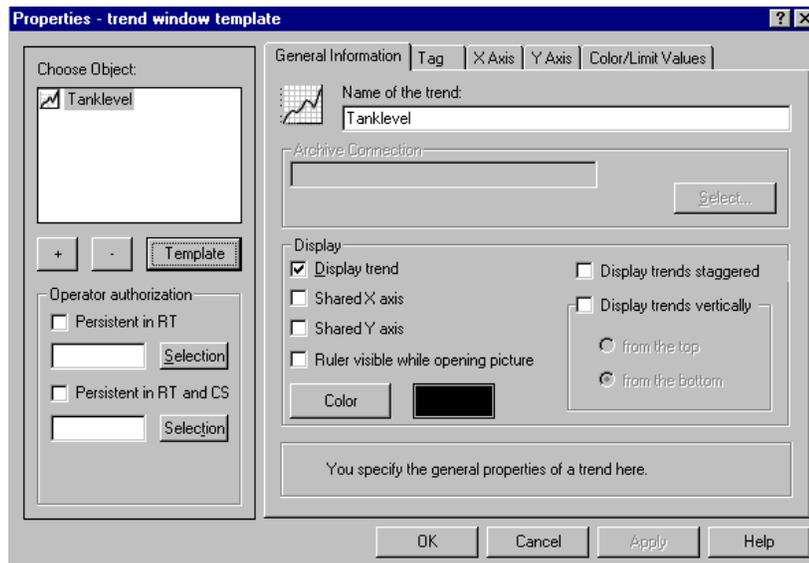

Figure 3.6a WinCC Project "QckStart"; Creating a Trend Window Template
To set up the template, follow these steps. You can also refer to Figures 3.6a - d.
2. In the **General Information** Tab, enter "Tanklevel" as the Name of your Trend. See Figure 3.6a.